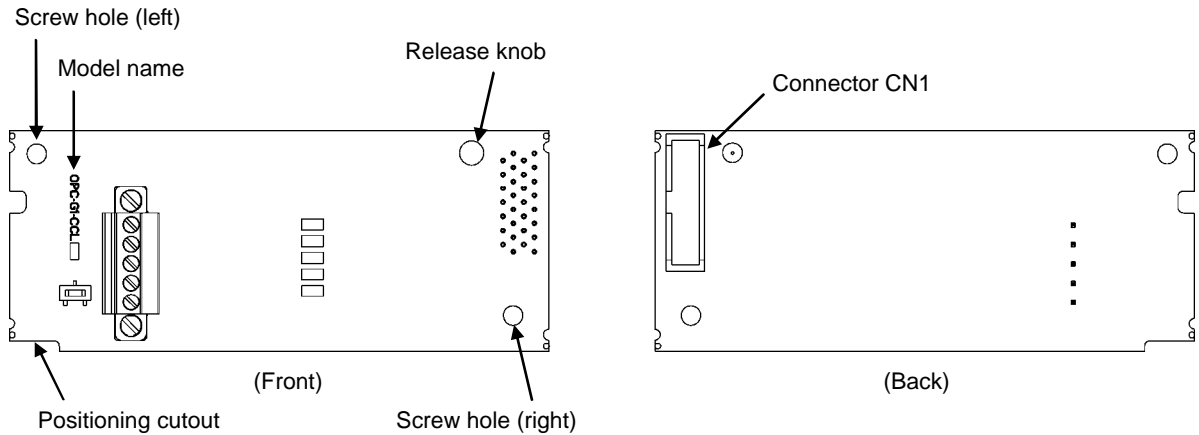

Figure 1.1 Names of Parts on CC-Link Communications Card
- (1) A communications card, two screws (M3 × 8), and the CC-Link Communications Card Instruction Manual (this manual) are contained in the package.
- (2) The communications card is not damaged during transportation--no defective parts, dents or warps.
- (3) The model name "OPC-G1-CCL" is printed on the communications card. (See Figure 1.1.)
- (2) Insert connector CN1 on the back of the communications card (Figure 1.1) into the A-port (CN4) on the inverter's control PCB. Then secure the communications card with the two screws that come with the communications card. (Figure 3.3)
Note Check that the positioning cutout (shown in Figure 1.1) is fitted on the tab (① in Figure 3.2) and connector CN1 is fully inserted (② in Figure 3.2). Figure 3.3 shows the communications card correctly mounted.
- (3) Perform wiring on the communications card.